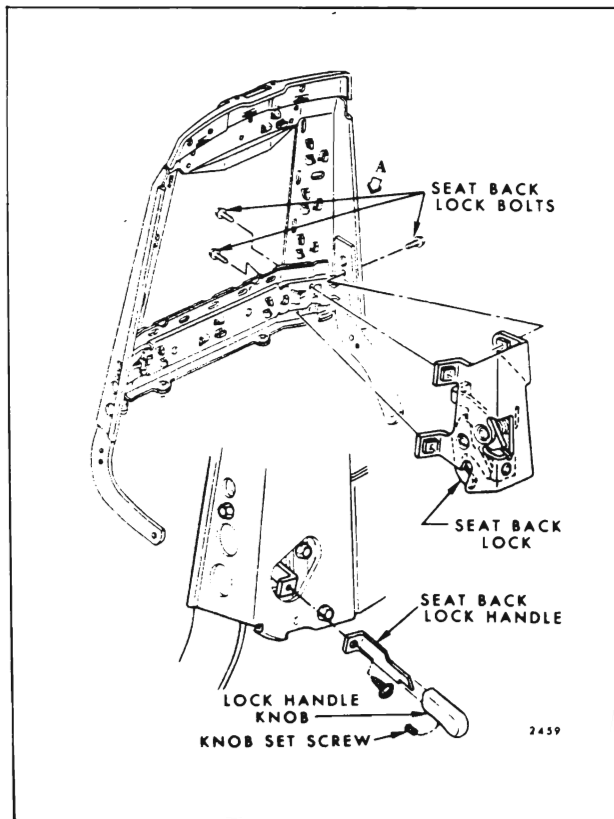

Fig. 15-30—Seat Back Lock - "F & Z" Bucket Seat
2. Remove seat back lock handle knob, lock handle escutcheon and lock handle (See Fig. 15-30).
3. Remove seat back panel and detach seat back trim outer side facing sufficiently to gain access to lock attaching bolts (Fig. 15-30).
4. Remove seat back lock attaching bolts (Fig. 15-30) and remove seat back lock from seat back.